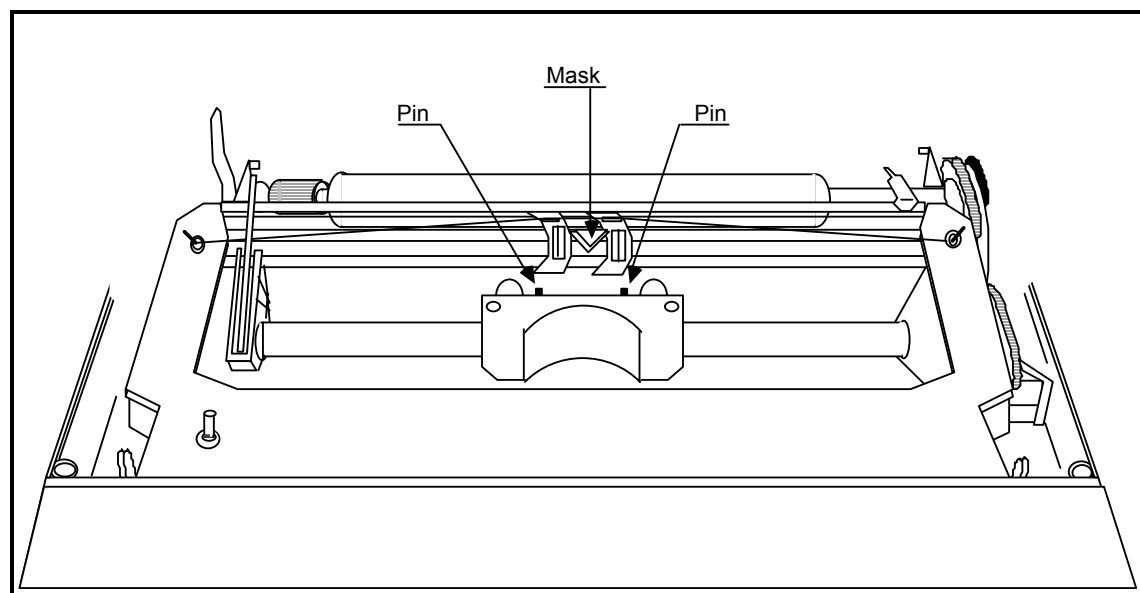

Figure 18-6 — Plastic Mask Attachment
- Step 9. Slide the white plastic mask on the ribbon until the mask is aligned with the print head. Slip the mask onto the pins at either side of the print head (Figure 18-6).